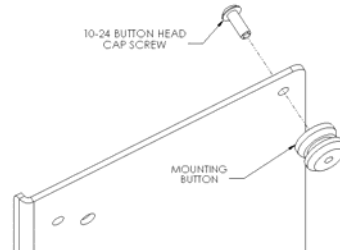
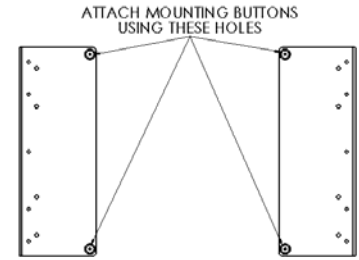

Figure 2
Figure 3
1. Using a 10-24 button head cap screw inserted from back side of bracket, secure mounting button, with chamfered hole of mounting button (larger surface) facing bracket, to brackets (four places) (see Figure 2 & Figure 3).